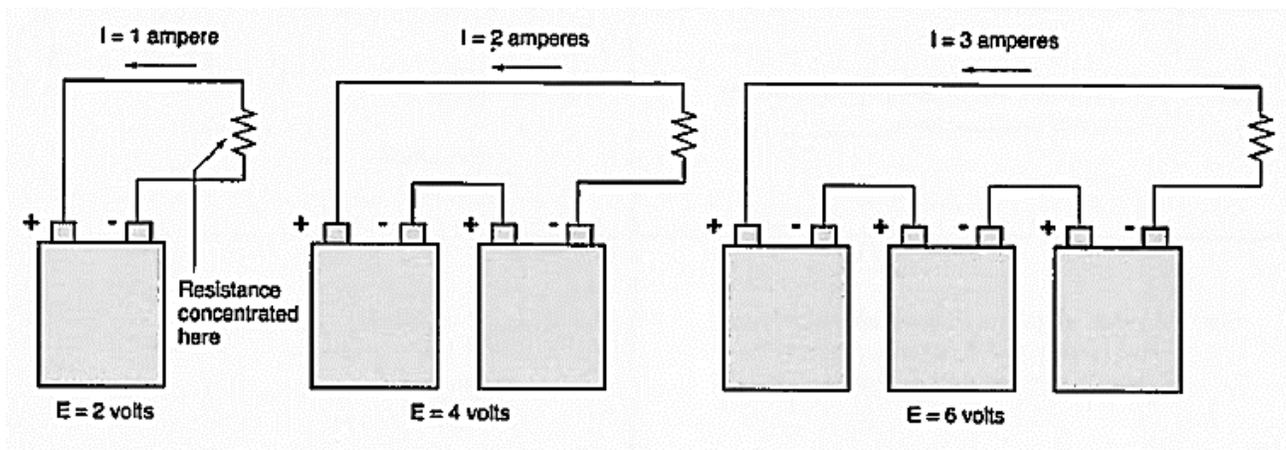

Figure 5.4: Effect of Potential Difference on Current
- 5-33 There is a simple relationship between the current that flows through a conducting path and the potential difference between the ends of the path. As you increase the potential difference, the current increases, as shown in Figure 5.4.